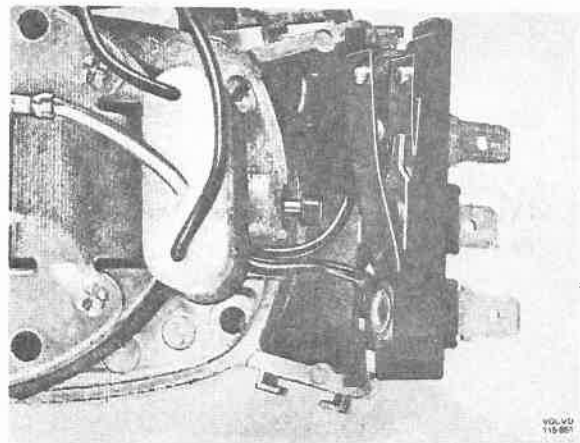

Fig. 36-14. Removing the parking switch
2. Remove the plastic plate over the parking switch. Remove the switch, brush holder bridge and suppressor from the housing, Fig. 36-14.